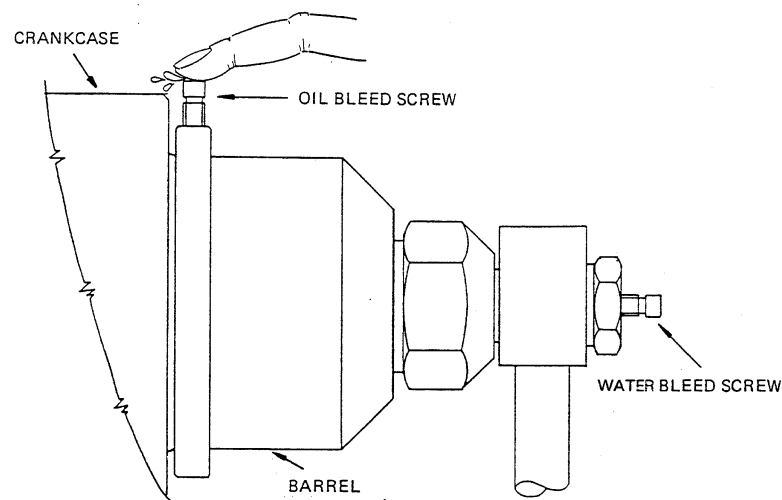

Fig 3.1 Bleeding the Pump
- (3) With reference to Fig 3.1, put a finger on top of an oil bleed screw on a lower barrel and open the screw slowly using a suitable spanner. When air-free oil flows, tighten the bleed screw firmly.
- (2) The pump is self-priming. If, however, any difficulty is experienced, stop engine, loosen the upper bleed nipples and allow water to flow from each nipple (ensure that the header tank remains full). Tighten nipples and repeat the procedure detailed in sub-para (1). To identify the bleed nipples, refer to Fig 3.1.
- (3) When the operator has taken up a working position, move the selector lever to the High Pressure position and increase engine speed to reach working pressure.